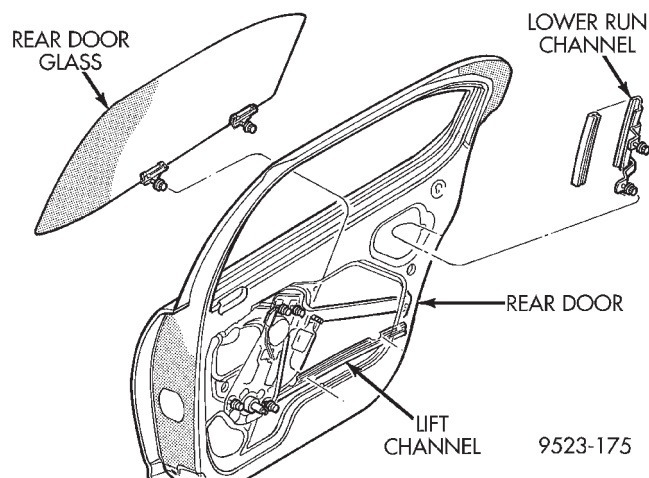

Fig. 35 Rear Door Glass
- (1) Remove door trim panel and inner belt weatherstrip.
- (2) Connect power window switch or install crank and lower window to 50 mm (2 in.) from bottom of travel.
- (3) Loosen bolts holding rear lower run channel to inner door panel (Fig. 35).
- (4) Separate rear run channel from door.
- (5) Loosen screws holding regulator roller channel to glass.
- (6) Slide roller channel rearward to allow screw heads to pass through key hole slots in channel.
- (7) Separate glass from roller channel.
- (8) Lift glass upward and out of the opening at top of door.